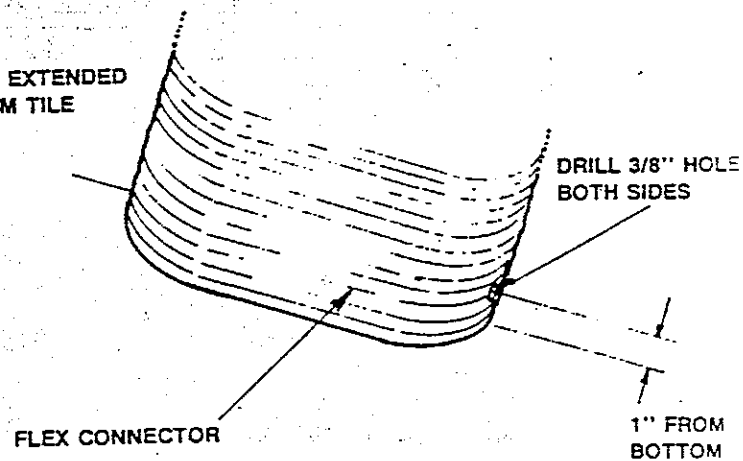

FIG. 2
3. Drill a 3/8" diameter hole in flex connector as shown in Fig. 2.